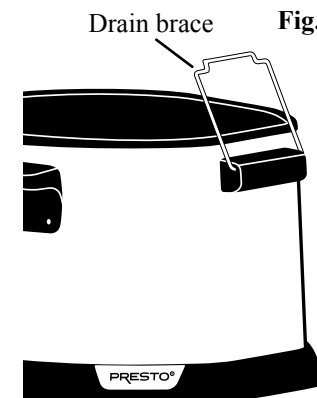

Fig. 32
Step 6 After preheating fryer, remove cover. Then lift the drain brace so it is resting against the fryer rim (Fig. 32). Before attaching the rotisserie to the fryer, make sure the motor button on the control panel is in the OFF position.